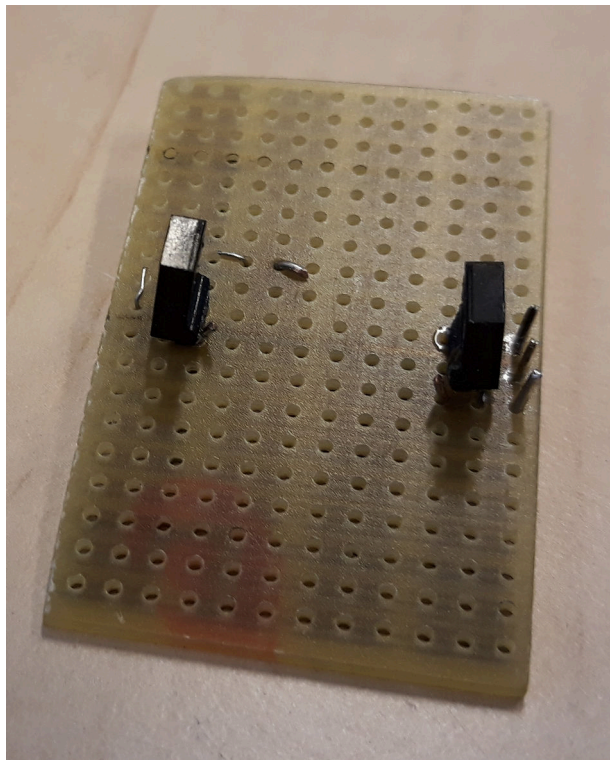

Figure 22: Top view of Optical Switch circuit
In figures 22 we see that we made the split between the diode and photologic sensor bigger. The reason is to give more space to the rotating strip.
In figures 22 and 23 you can see that we added a 3 pins male Dupont connector to make this circuit easily connectable.
- In figures 22 and 23 you can see that we added a 3 pins male Dupont connector to the optical switch circuit to make this circuit easily connectable. It contains a 3 pins male Dupont connector to connect the Vcc,GND and